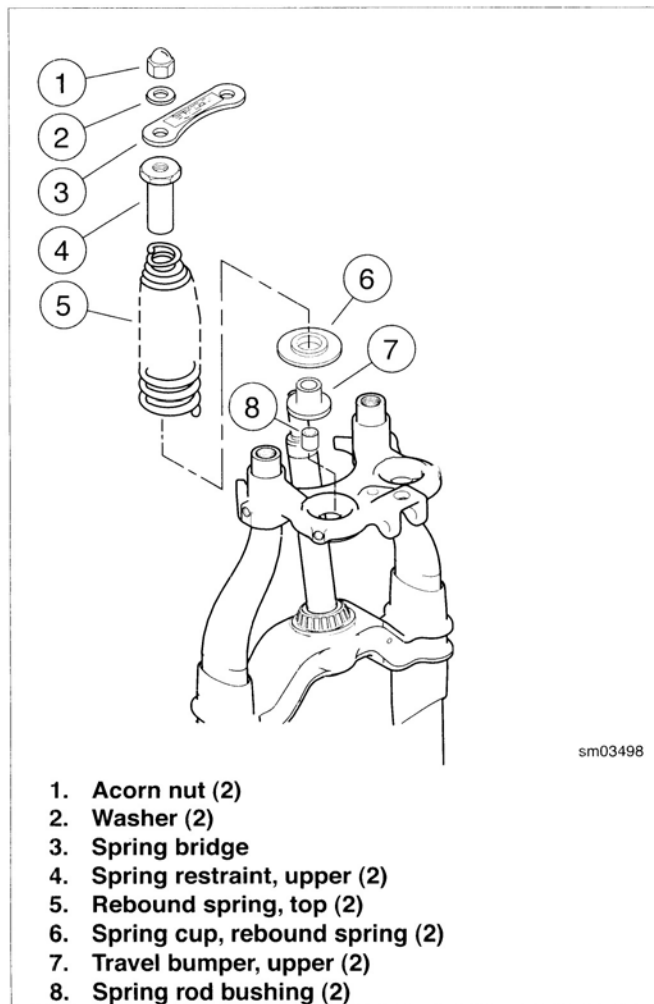

Figure 2-71. Rebound Spring: Disassembly
5. See Figure 2-71. Remove acorn nuts (1), washers (2) and spring bridge (3).
6. Remove upper spring restraints (4).
7. Remove upper rebound springs (5).
8. Remove rebound spring cups (6).
9. Remove upper rubber travel bumpers (7).
10. Remove spring rod bushings (8).